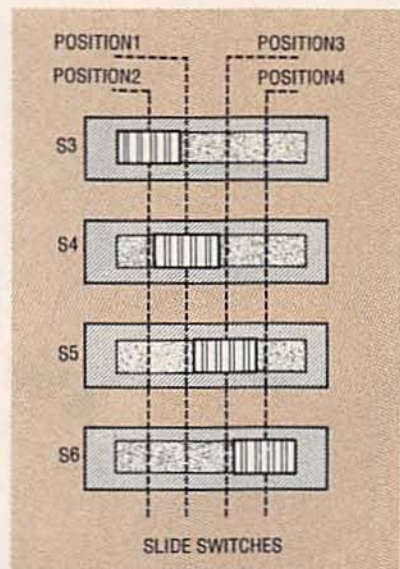

FIG. 9—FOUR POSSIBLE ACTUATOR SETTINGS of the two-pole, four-throw slide switches S3 to S6 that adapt the TVS250 to a specific phone.
5) *Caution: Be sure that none of the actuators of the four switches S3 to S6 are in the same positions (see Fig. 9). If the jumper post shorting clips remain in place and two of the switches are in the same position, the unit will malfunction. Moreover, power indicator LED1 (green) might not light. The removal of the four shorting clips prevents this.*
6) Move S1's actuator ON and green LED1 should light. Move S2's actuator back and forth and red LED2 should turn on and off. When red LED2 is illuminated, the scrambler is in the *scrambled mode*. Before continuing, be sure red LED2 is off (*normal mode*). When configured properly, the actuators of S3 to S6 will be in one of four possible positions as shown in Fig. 9. Remember that no two switch actuators should be set in the same position. Switches S3 and S6, which control the handset speaker connection, should be adjusted first. To find the proper switch settings for the handset speaker, listen for the phone's dial tone.